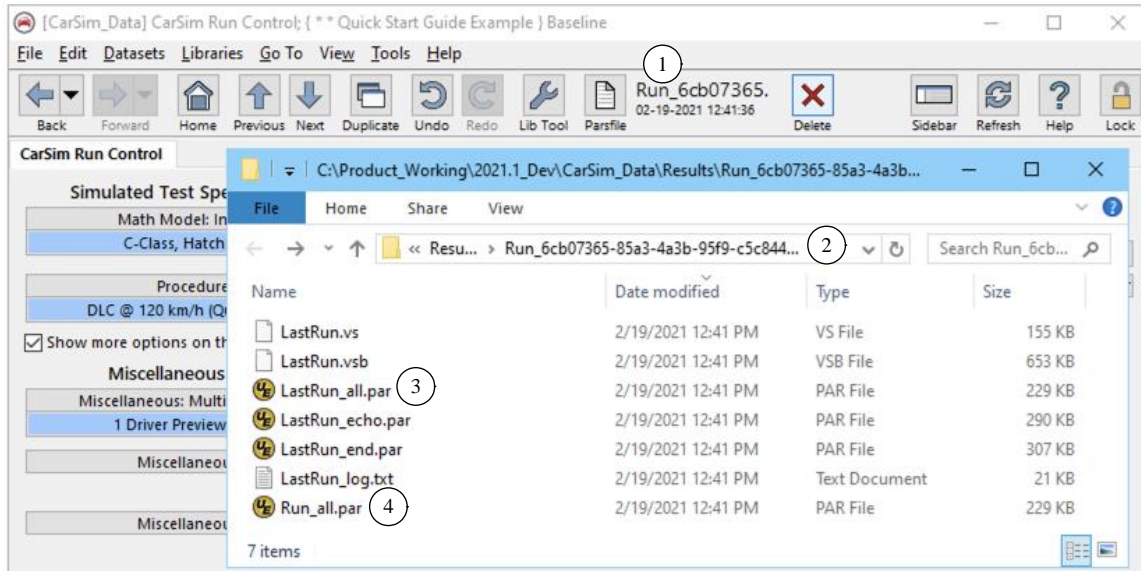

Figure 31. Each Run Control dataset is linked to a folder with simulation results.
Figure 31 shows the `Results` folder for a typical run. The new folder is itself located in a folder named `Results`. It has the name `Run_uuid`, where `uuid` is the universally unique ID number used to name the **Run Control** dataset. For this example, the `uuid` for the dataset is `6cb07365-...` ①, which is also part of the folder name ②.
The **Run Control** screen has controls to keep results from recent simulations, as described earlier (Figure 11, page 8). When the option selected is to keep only the last run, the text LastRun is used as a file name or prefix, as shown in Figure 31.